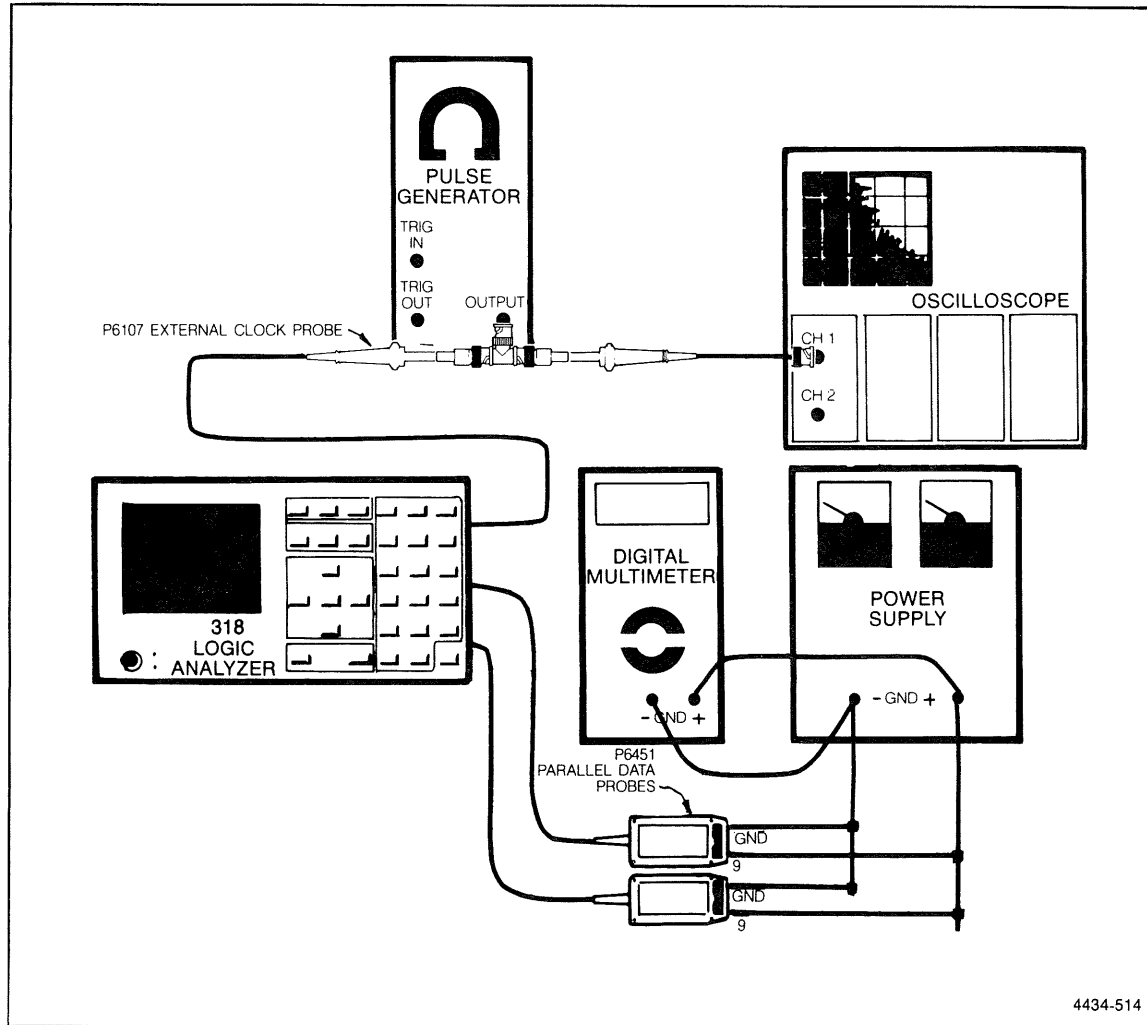

Figure 2-25. Threshold voltage check setup.
Refer to Figures 2-25 and 2-27.
- a. Install the P6107 EXT CLK Probe and both P6451 Parallel Data Probes in the 318A. Connect a BNC T-connector to the pulse generator OUTPUT. Connect the P6107 External Clock probe tip to one side of the BNC T-connector. Refer to Figure 2-25.